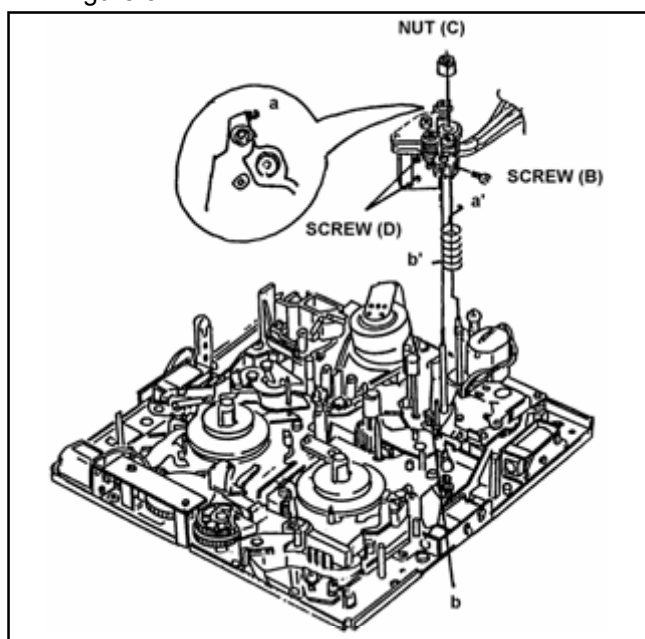

Figure 5-21-1
1. Loosen the hex screw (B) and remove the Nut (C). Detach the Head Height Adjustment Spring and then remove the A/C Head Unit as shown in Figure 5-21-1.
3. Remove the Shield Cover by removing 2 screws (D) in Figure 5-21-1.